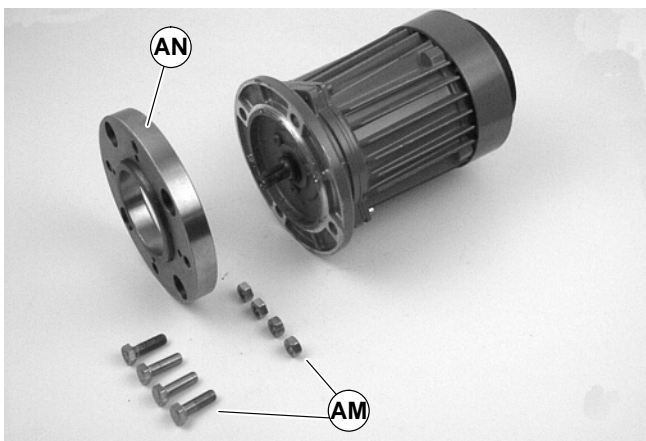

Figure 22
4. Remove four (4) screws and nuts (AM of Figure 22). Remove adapter flange (AN).